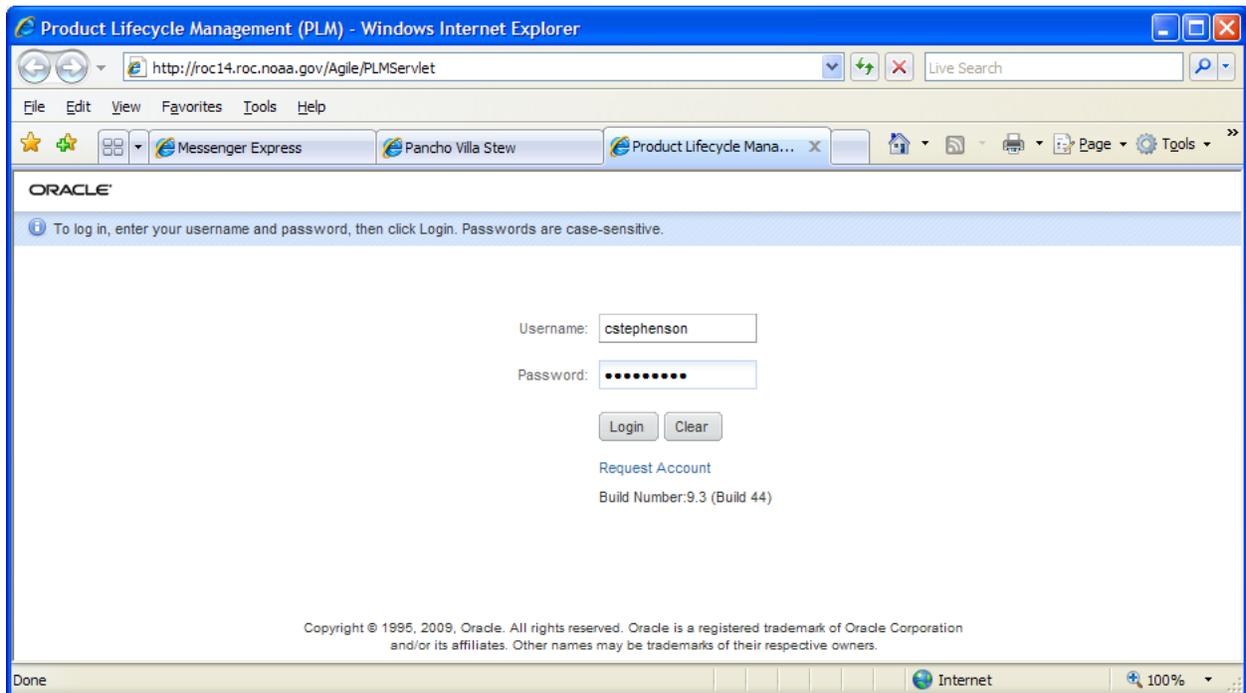

Figure 39: Product Lifecycle Management login screen.
- e. The **Product Lifecycle Management (PLM)** login screen will be displayed (Figure 39). Complete the **Username** and **Password** information and click **Login**.